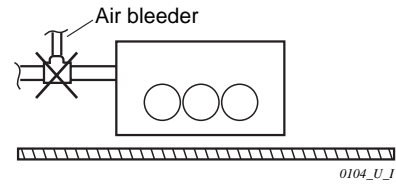

Fig. 3-90
- Do not install air bleeding tubes, as this may cause water to spray from the drain tube outlet. (Fig. 3-90)